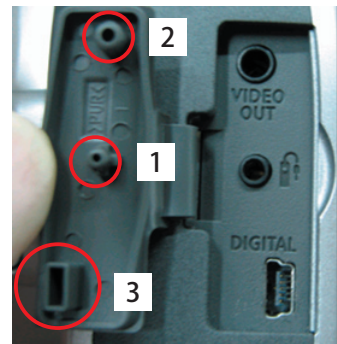

Fig. 045
- (1) Fit the parts circled in red (shown in Fig. 045) on the terminal cap into the grooves of the side cover and assemble the side cover from the top cover unit side.
(2) Press the side cover in this order: center, top, and bottom part.